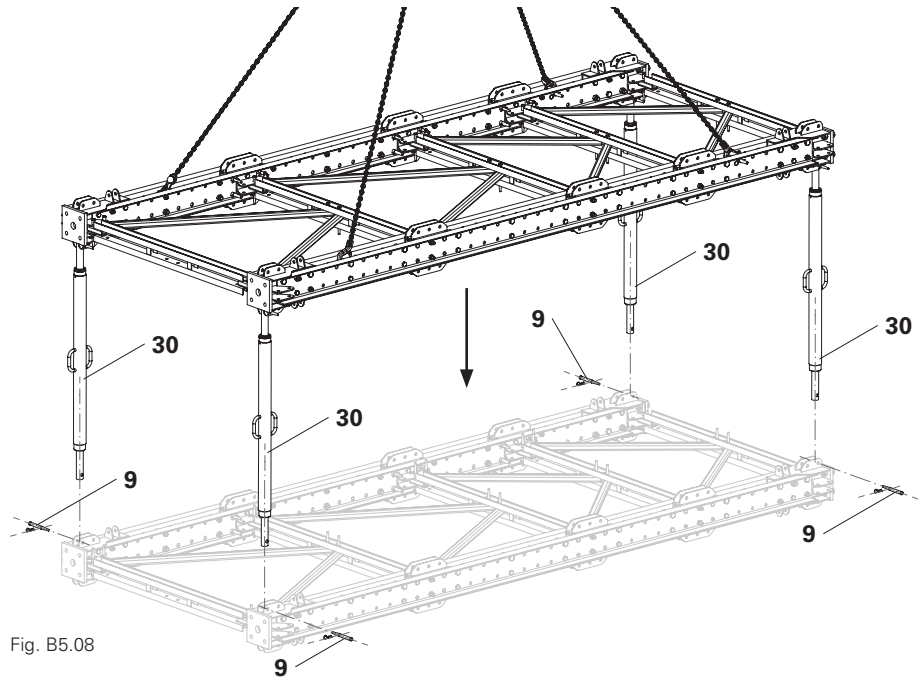
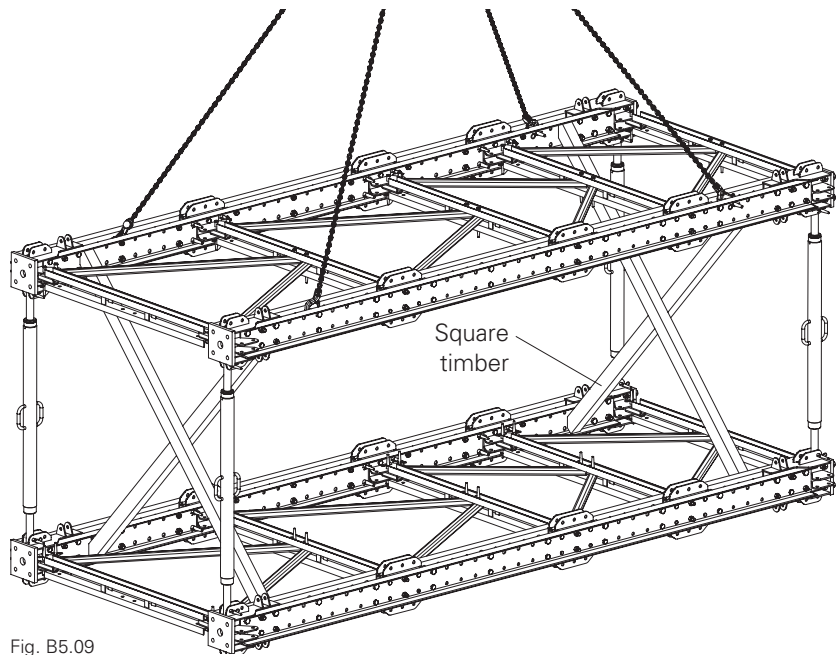

Fig. B5.08
Fig. B5.09
2. Lower the module with the crane until the bottom fitting pins \varnothing 21 mm (9) can be mounted. (Fig. B5.08)
3. Connect the heavy-duty spindles SLS (30) to the bottom module using 1x fitting pin \varnothing 21 mm (9) each.
4. Secure position, e.g. with square timbers. (Fig. B5.09)